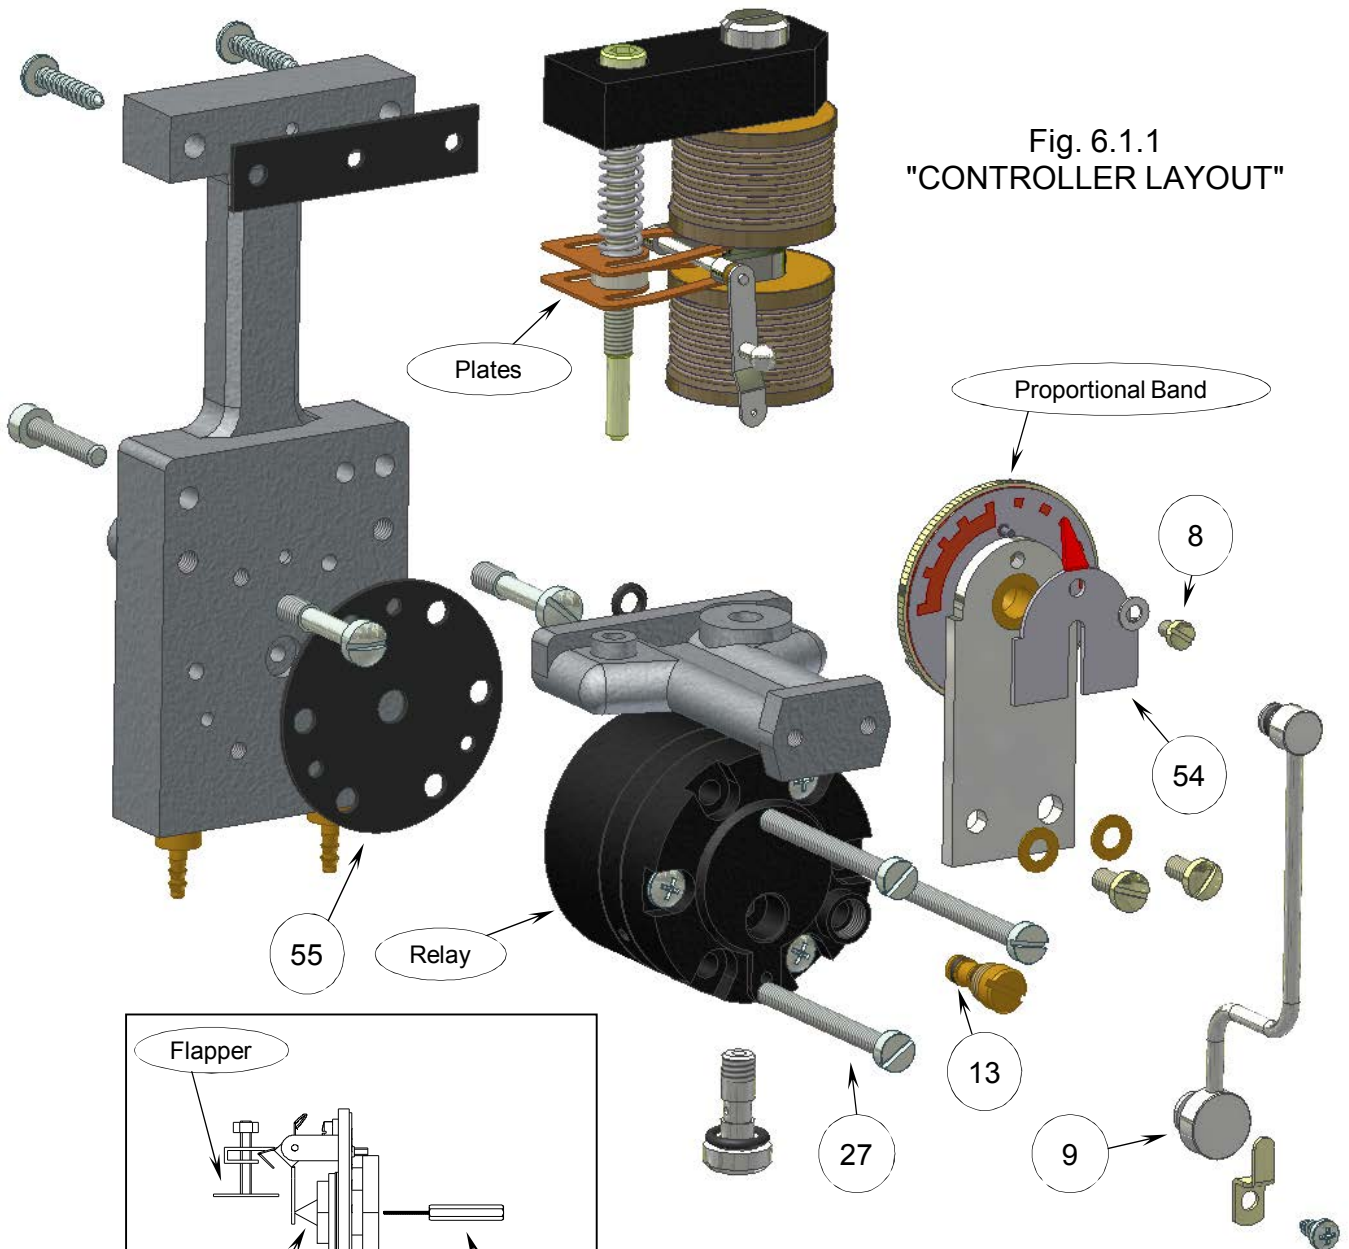
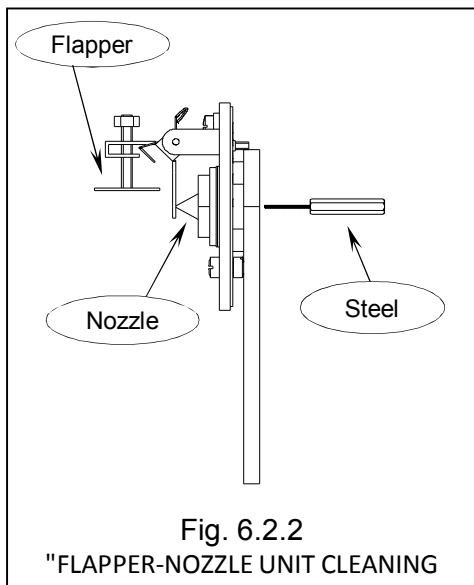
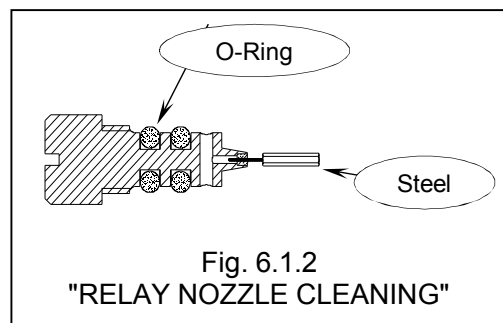
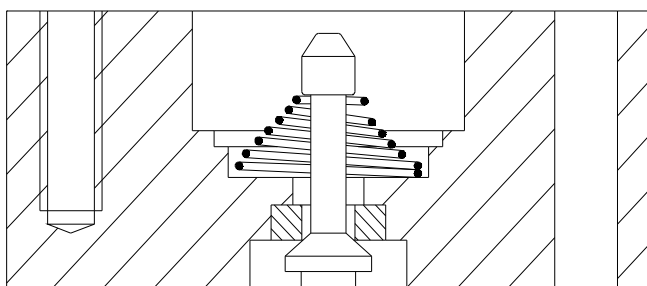

Fig. 6.1.1
Fig. 6.2.2
Fig. 6.1.2
Fig. 6.3.2
Remove the screw (13) (see Fig. 6.1.1) and clean, as shown in Fig. 6.1.2, by means of the supplied steel wire situated inside the instrument. If the capillary orifice is obstructed, clean it with a bath in trichloroethylene and a blow of compressed air. Before fastening the screw (13), we recommend lubricating the O-rings by applying a coat of silicone lubricant.
Unscrew the screw (8) (see Fig. 6.1.1). Remove the dial (54), the tube (9) and clean, as shown in Fig. 6.2.2, by means of the supplied steel wire situated inside the instrument. During this operation keep the oscillating plate away from the nozzle, to avoid scratching it. Before mounting the tube (9), we recommend lubricating the O-rings by applying a coat of silicone lubricant.
If there is any oil and condensate in the air supply, clean the diaphragms (31) and (35) and the other inside elements of the relay (see Fig. 6.3.2). Disassemble the relay as follows:
- 4) Remove the three Allen screws (28) and disassemble the relay (see Fig. 6.3.2). Clean or replace the diaphragms.
- 5) Assemble the relay. Follow the layout drawing shown in Fig. 6.3.2.
Relay	Fig. 6.1.1
Set relay diaphragms	(55) Fig. 6.1.1 / (31) and (35) Fig. 6.3.2
Complete proportional band Unit	Fig. 6.1.1
Nozzle, O-Ring included	Fig. 6.1.2
Steel wire	Fig. 6.1.2
Control unit plates	Fig. 6.1.1
O-Ring set	Tubing and nozzle Fig. 6.1.1